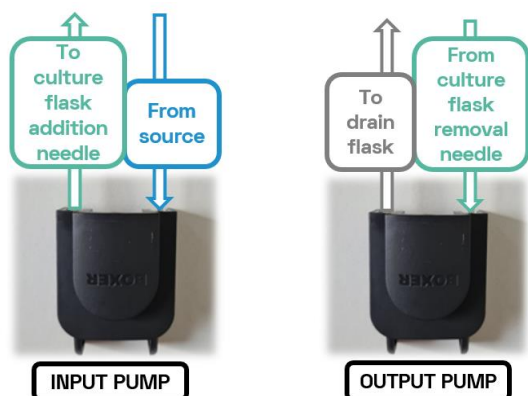

Figure 13: Input and output pump configuration showing tubing connections
- d. The culture flasks each have a long needle (Drain) and a short needle (Source) (Figure 13).